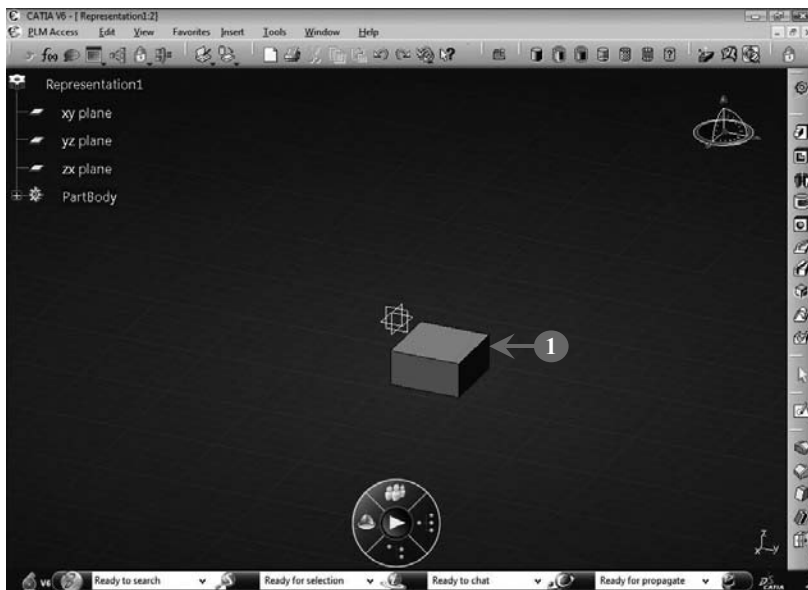

FIGURE 3.89
1. *Create* a solid model in the Part Design workbench that you want to rotate. In our case, the solid model is a parallelogram created in the Sketcher workbench, as shown in **Figure 3.89**: